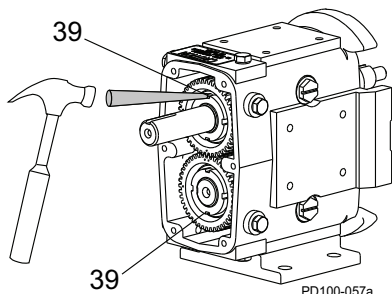

Figure 292 - Bend Locking Tab
- Bend the locking tab on the lock washers into the locking nut slots, securing the gear locknut into place (Figure 292).